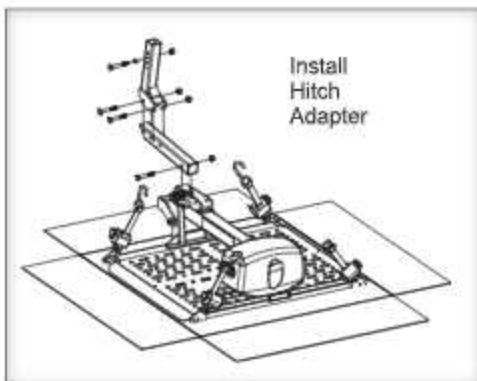

Figure 15-2
3. Determine / Install Hitch Height / Adapter. Measure the hitch to ground distance so you can save time by selecting components that fit between lift and vehicle so as to maintain proper ground clearance. [Figure 15-2] Install Hitch Adapter that fits the application. See pages 21 to 25.